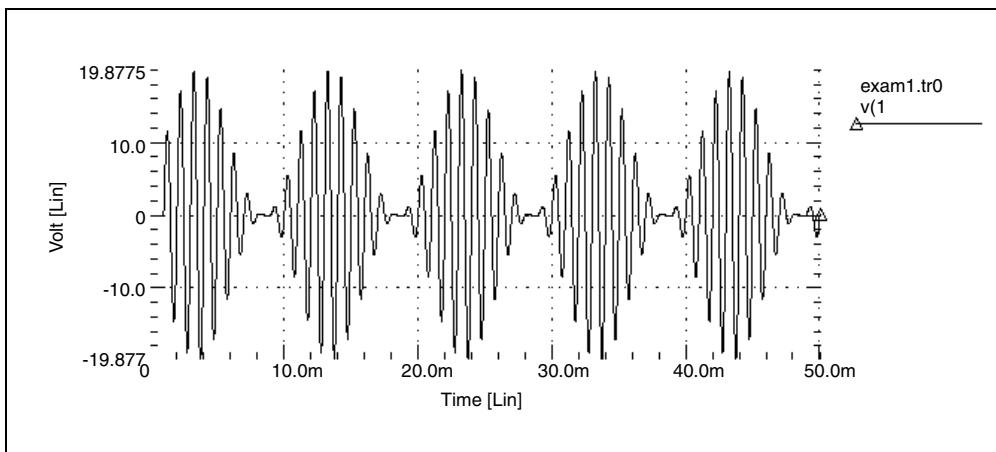
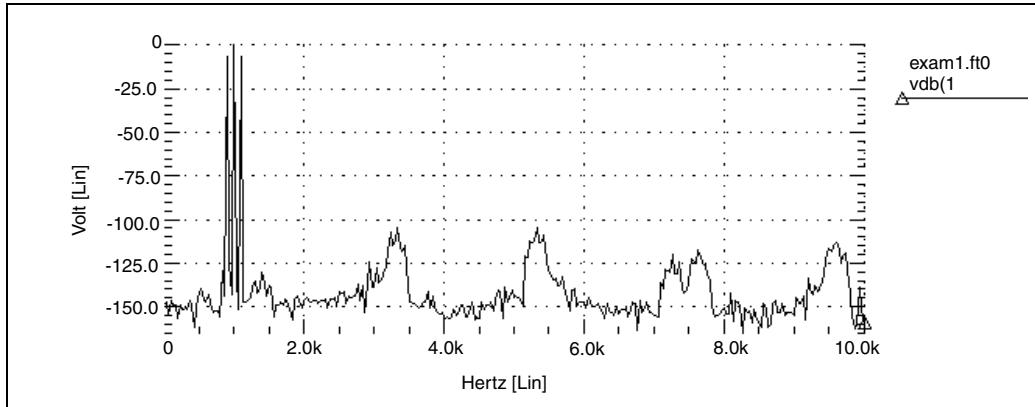

Figure 63 AM Modulation
Figure 64 AM Modulation Spectrum
Figure 63 and Figure 64 on page 548 display the results.
- Figure 63 shows the time-domain curve for node 1.
- Figure 64 shows the frequency-domain components, for the magnitude of node 1.